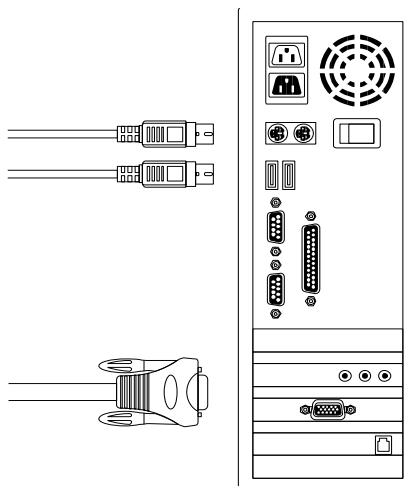

Figure 8: PS/2 (Keyboard & Mouse) and VGA connected
- B. Only connecting the **PS/2 (keyboard/mouse)** and **VGA** connectors to the computers. (Figure 8)